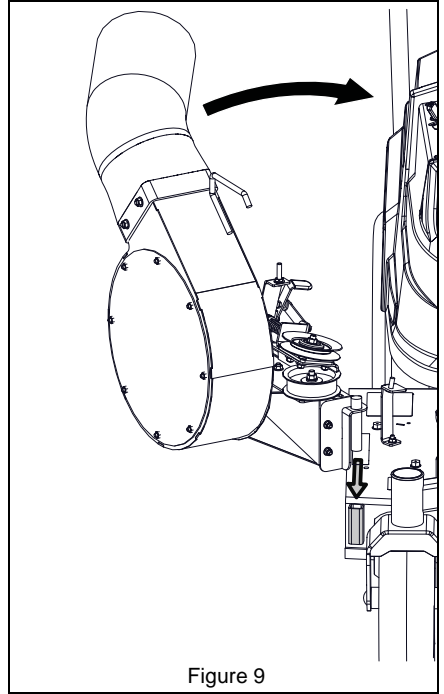

Figure 9
1. Grasp the blower assembly by the handle and insert the front pin into the square tube on the front corner of the deck. Rotate the blower assembly in until the hole in the bracket aligns with the rear mounting stud and lower the blower over the stud. See Figure 9 and Figure 10.